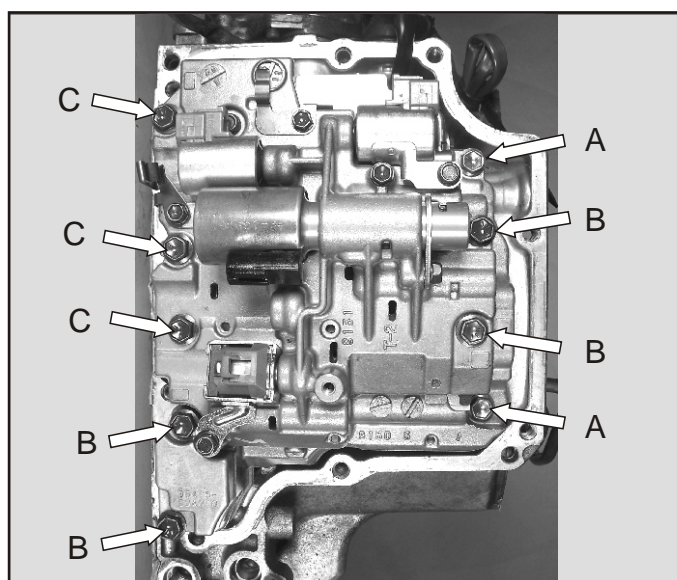

Figure 89
38. Remove the 10 mm headed valve body to case retaining bolts as shown in Figure 89. **Note:** *bolt lengths are as follows, A = 16mm long, 50mm long and C = 55mm long.*